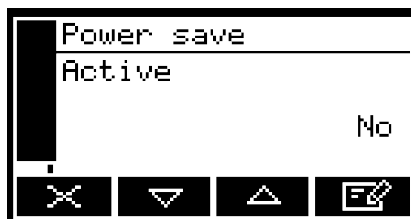

Figure 16: The Power save option screen
1. With the Settings screen displayed, use the  and  soft keys to highlight the "Power save" menu option, then press the  soft key. The Power save option screen will then be displayed, as shown in Figure 16.